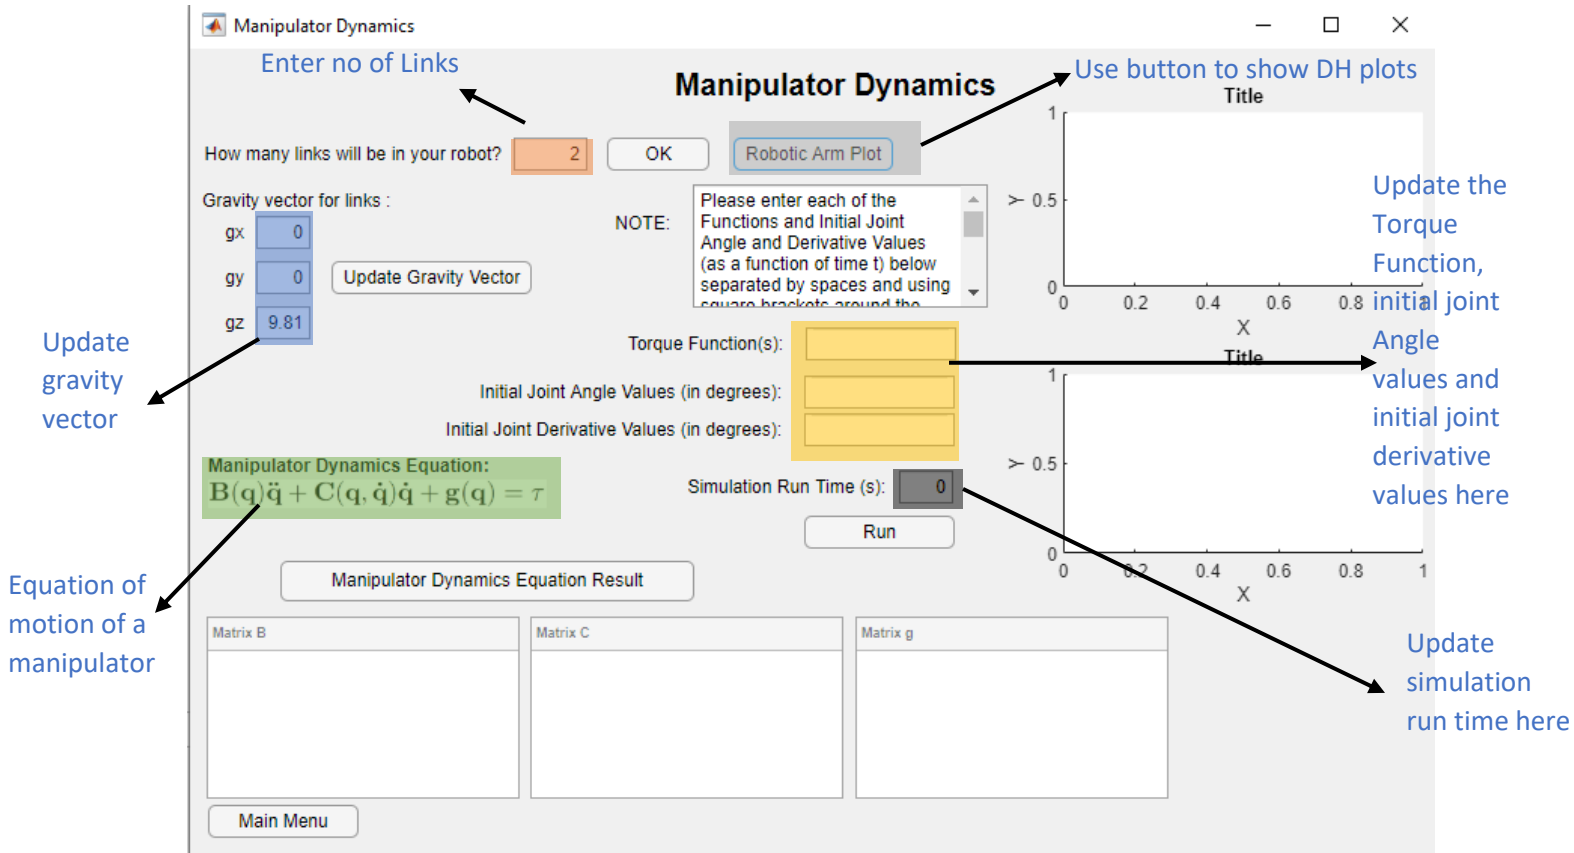
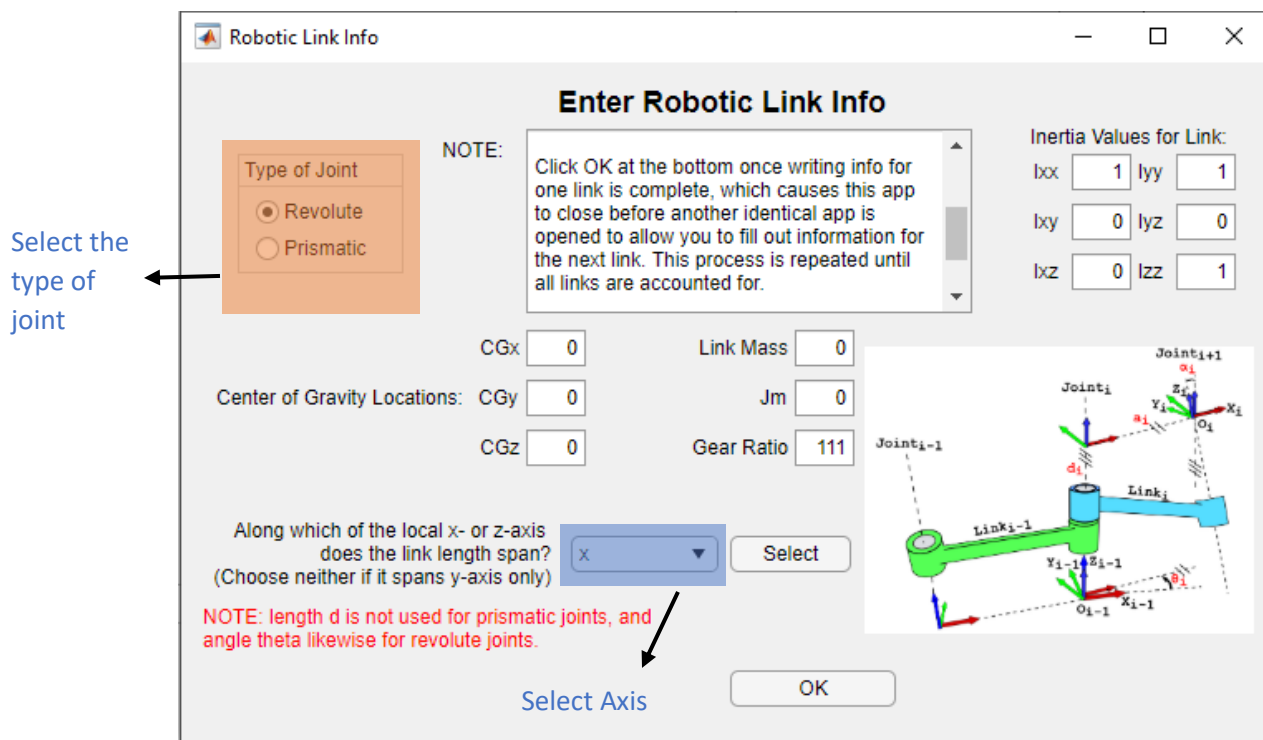
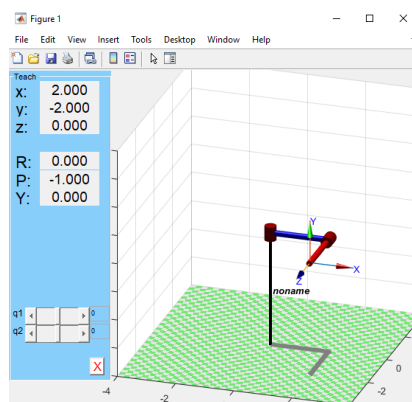

Figure 6.
Figure 7.
Figure 9.
When you have selected a NO in familiarity of DH Parameters and selected to solve for Manipulator dynamics you will be directed to this window shown in Figure 6.
Step 1. Enter the no of link in the space highlighted by orange in figure 6. Once you click OK you will be shown a window as shown in Figure 7.
Step 2. After entering the details in Figure 7 and 8 click on Robotic arm plot button in Figure 6 to get the plot of the robotic arm to assure the DH parameters in Figure 9.
Step 6. Enter the run time for which we have to run the simulation in the space highlighted in black in figure 6.